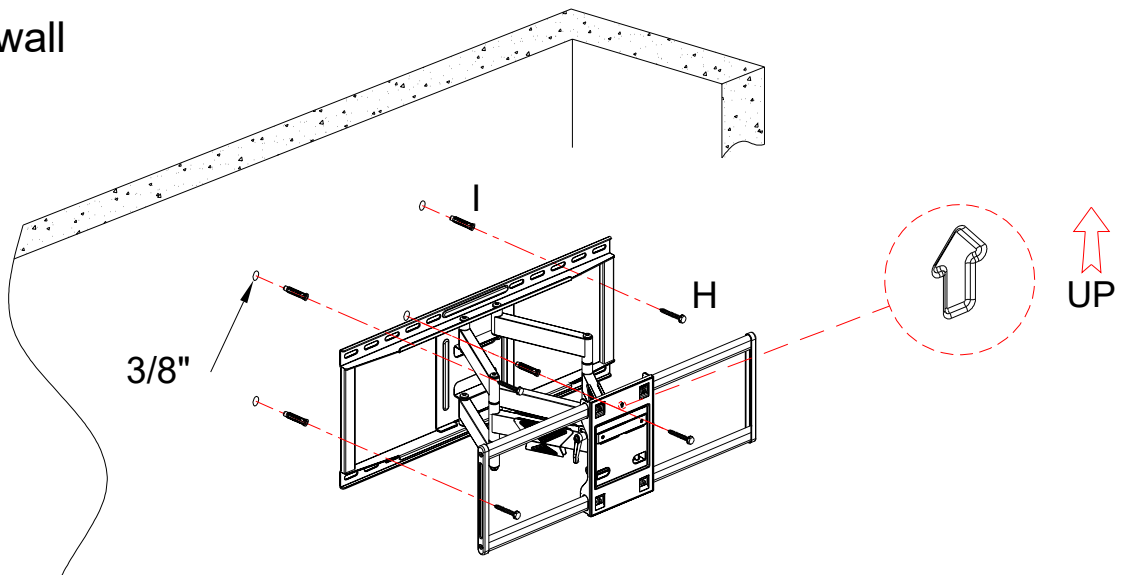

Figure 1 (keep the wall plate level)
Step 1: Pls remove the plaster board on the surface of concrete wall when assembling mount on the concrete wall. Hold wall plate (A) against wall at desired position on concrete wall, then using a pencil mark 4 hole locations . Then drill holes according pencil marks using 3/8" size drill bit to a depth of 2.5" . Then you will need to use wall anchors (I). Insert wall anchors (I) into holes, you may need to use hammer to lightly tap wall anchors into wall. Then fix wall plate (A) to the wall with screws(H). (Figure 1)